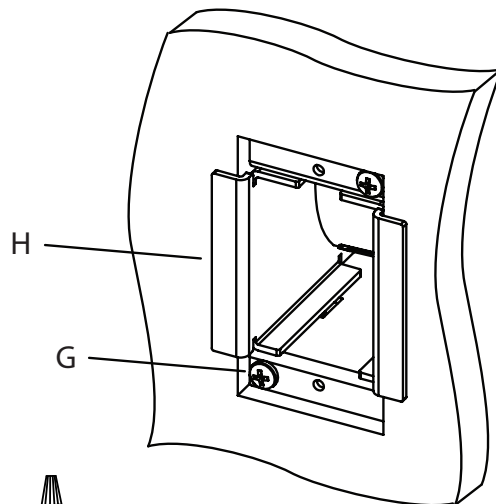

Fig. 4
17. While keeping the side tabs (H) pressed against the mounting surface, secure the Minibox to the mounting surface by tightening the two mounting screws (G). (Fig. 4)